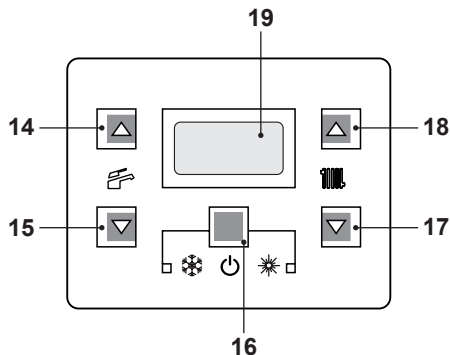

Fig. 8.31
- Enter the "programming mode" by sequentially pressing and holding in keys, 16 - 17 and then 18 (Fig. 8.31) for 10 seconds until the letters **Pr** that alternate with code **01** are displayed on the LCD display, indicating that "parameter 01" (Fig. 8.32) has been activated.
- Press keys 16 and 18 (Fig. 8.31) at the same time until the value of parameter 01 (68=**ADVANCE 30C** or 66=**ADVANCE 35C**) is displayed on the LCD display (Fig. 8.33).
- Press keys 16 and 17 (Fig. 8.31) at the same time to exit without changing the value (return to the parameters list Fig. 8.32).
- Press sequentially keys, 16 - 17 and then 18 (Fig. 8.31) and hold in for 10 seconds to exit the "programming mode".